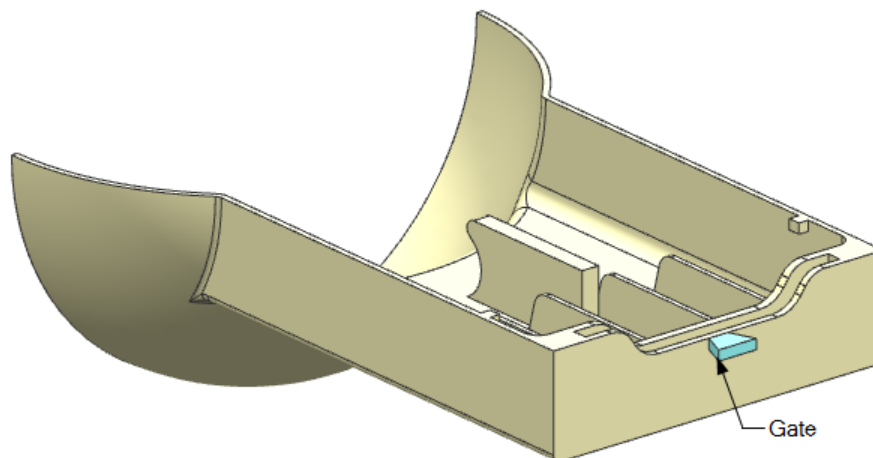

Figure 16-75 The model with fan gate
- 15. Choose the **OK** button to close the **Create Gate** dialog box. Refer to Figure 16-75 for model with fan gate.